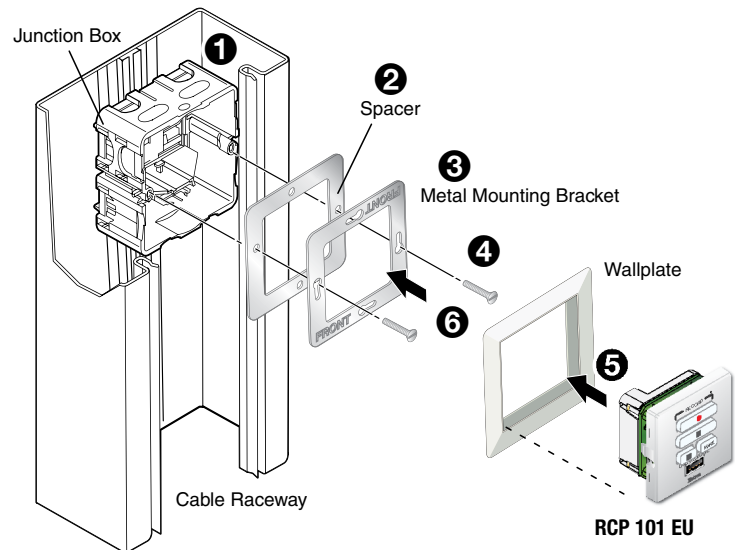

Figure 7. Mounting in a Cable Raceway
1. Mount an electrical box in the raceway (figure 7, **1**). Follow the instructions provided by the manufacturer.